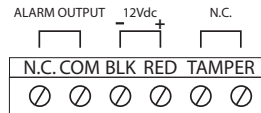

Figure 4: Terminal Board Wiring
- Step 6: Install the PCB board onto the back plate. Connect wires to terminal board (1) as per Figure 4.